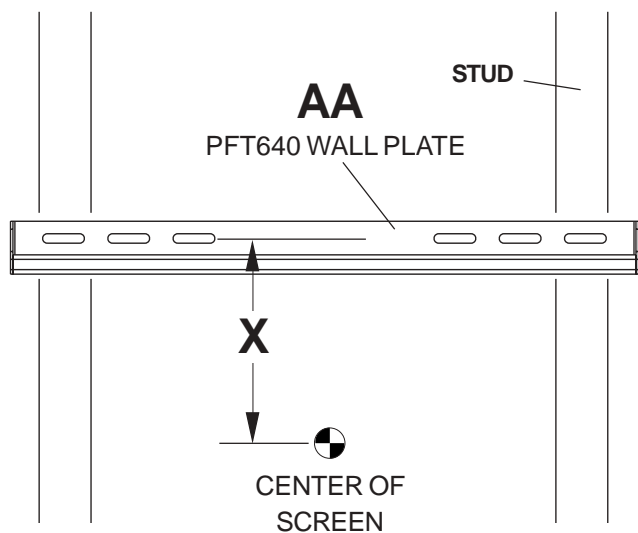

fig. 1.1
**1** Wall plate (AA) can be mounted to two studs that are 16" apart. Use a stud finder to locate the edges of the studs. Use of an edge-to-edge stud finder is highly recommended. Based on their edges, draw a vertical line down each stud's center. Place wall plate on wall as a template. The top mounting slots should be located above the desired screen center as shown in figure 1.1. **Note:** Screen tilt will determine wall plate location. Level plate, and mark the center of the two mounting holes. Make sure that the mounting holes are on the stud centerlines. Drill two 1/2" holes through drywall and metal studs. **Note:** It may be necessary to drill 5/32" pilot holes prior to drilling 1/2" holes.